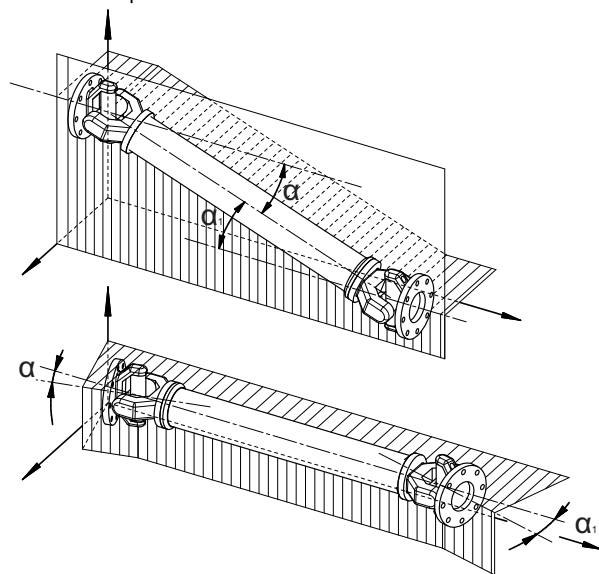

Fig. 4.1
- In order to achieve a uniform motion of the driven shaft, the following requirements must be met (see Fig. 4.1):